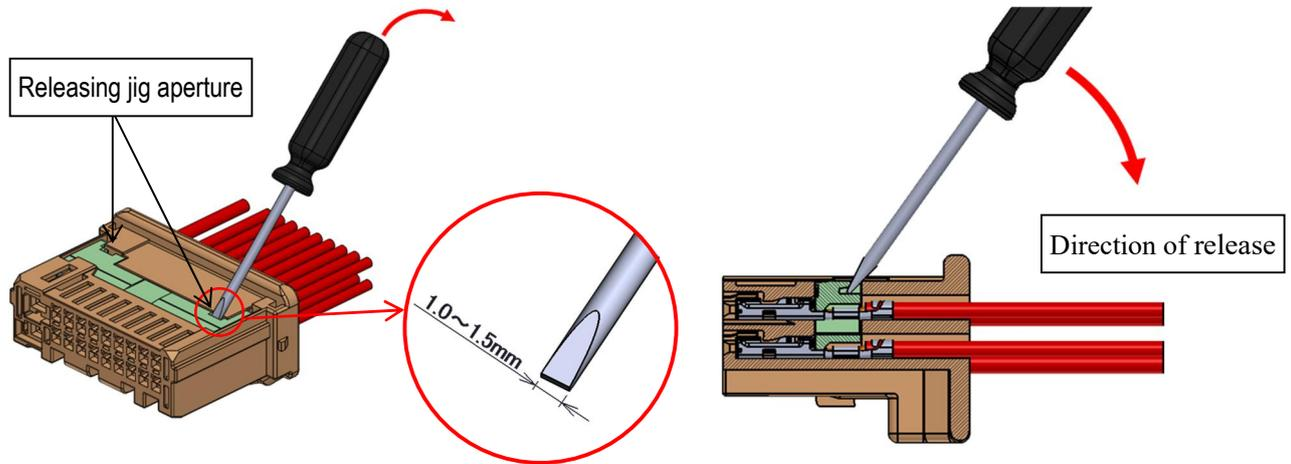

Fig 30. How to release the retainer
- ① Insert a screwdriver with a width of 1.0mm to 1.5mm into the releasing jig aperture (2 places) in the bottom surface of the female housing, and push out the retainer. (see Fig.30).